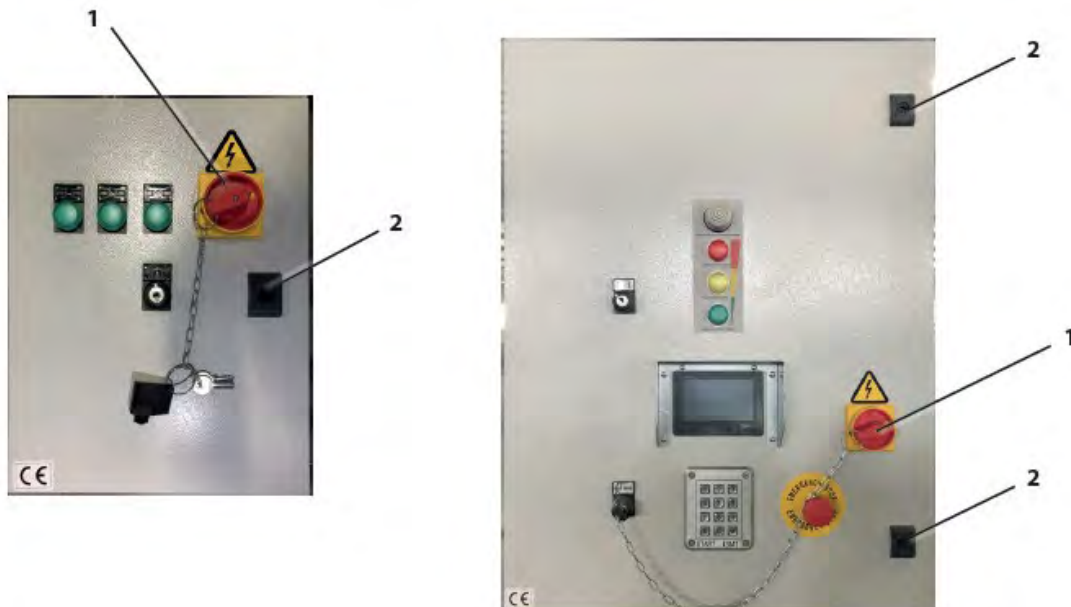

Figure 8.4
The movable guards which lock with a key or tool are applied to the panels used to close the electrical base control panel and that are found onboard the machine. The locking slot (1) used for the base control panel and the onboard control panel is shown in figure 8.4. The main switch (2) on the onboard control panel and be locked in the “OFF” position.